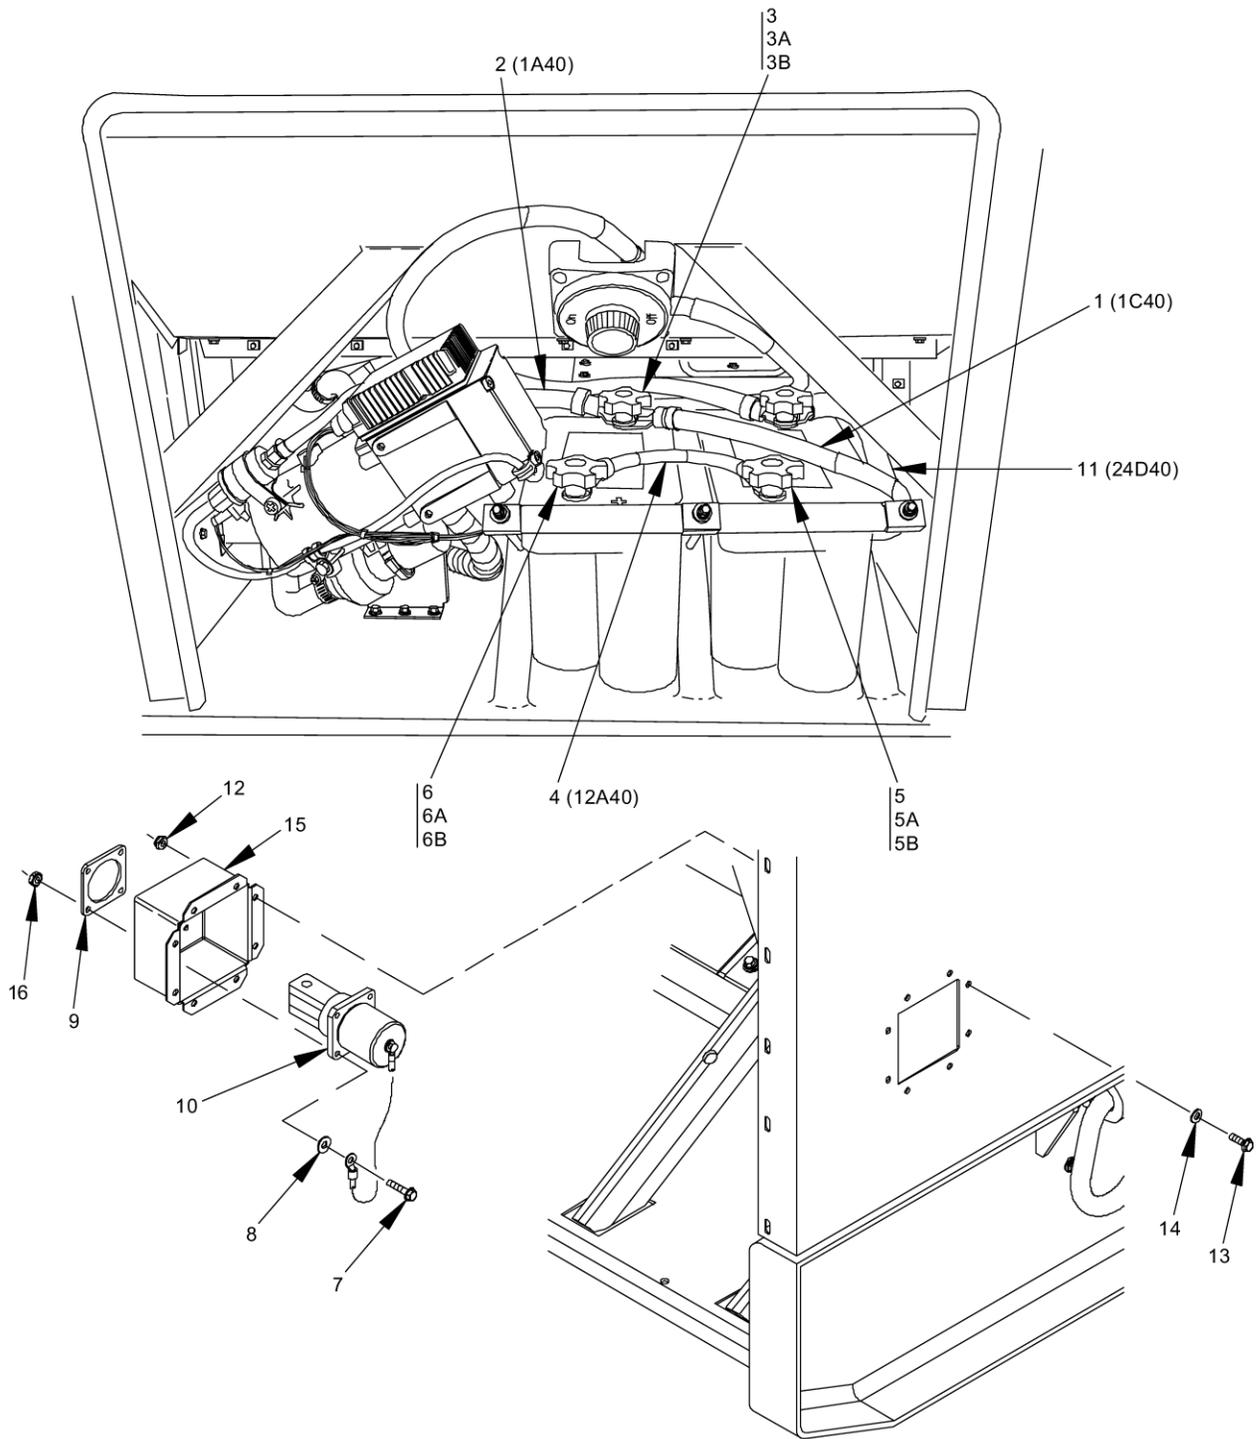

Figure 1. Slave Receptacle.
6. Remove four nuts (Figure 1, Item 16), screws (Figure 1, Item 7), washers (Figure 1, Item 8), retainer (Figure 1, Item 9), and push slave receptacle (Figure 1, Item 10) out of TQG.
7. Tag and disconnect battery cables 1C40 (Figure 1, Item 1) and 24D40 (Figure 1, Item 11) from slave receptacle (Figure 1, Item 10).
8. Remove eight locknuts (Figure 1, Item 12), washers (Figure 1, Item 13), screws (Figure 1, Item 14), and slave receptacle pocket (Figure 1, Item 15).
1. Install slave receptacle pocket (Figure 1, Item 15), eight screws (Figure 1, Item 14), washers (Figure 1, Item 13), and locknuts (Figure 1, Item 12).
2. Remove tags and connect battery cables 1C40 (Figure 1, Item 1) and 24D40 (Figure 1, Item 11) to slave receptacle (Figure 1, Item 10).
3. Install slave receptacle (Figure 1, Item 10) and retainer (Figure 1, Item 9) with four washers (Figure 1, Item 8), screws (Figure 1, Item 7), and nuts (Figure 1, Item 16).
4. Install battery cable 12A40 (Figure 1, Item 4) on battery BT1 (right battery) negative terminal and battery BT2 (left battery) positive terminal and secure with flat washer (Figure 1, Item 5B), lock washer (Figure 1, Item 5A), and battery terminal knob (Figure 1, Item 5), and flat washer (Figure 1, Item 6B), lock washer (Figure 1, Item 6A), and battery terminal knob (Figure 1, Item 6). Remove tag from battery cable.
5. Install battery cable 1A40 (Figure 1, Item 2) and battery cable 1C40 (Figure 1, Item 1) on battery BT2 (left battery) negative terminal and secure with flat washer (Figure 1, Item 3B), lock washer (Figure 1, Item 3A), and battery terminal knob (Figure 1, Item 3). Remove tags from battery cables.